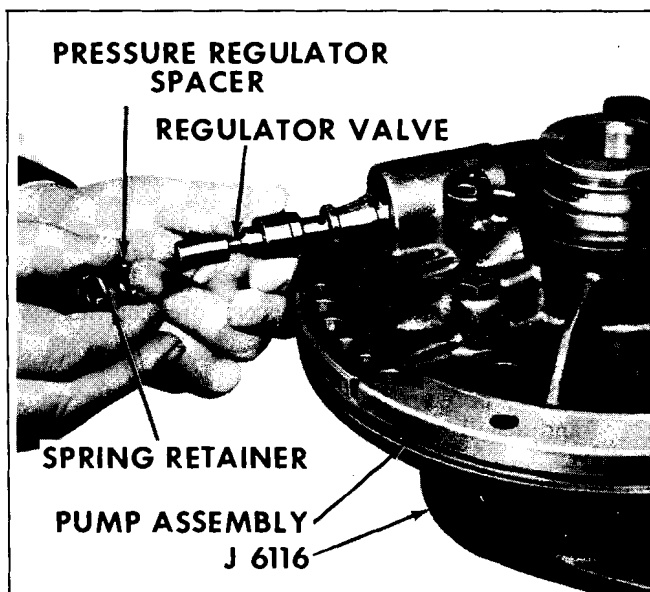

Fig. 7E-104 Removing Pressure Regulator Valve
2. Compress regulator boost valve bushing against pressure regulator spring and remove snap ring, using snap ring pliers (Fig. 7E-103).